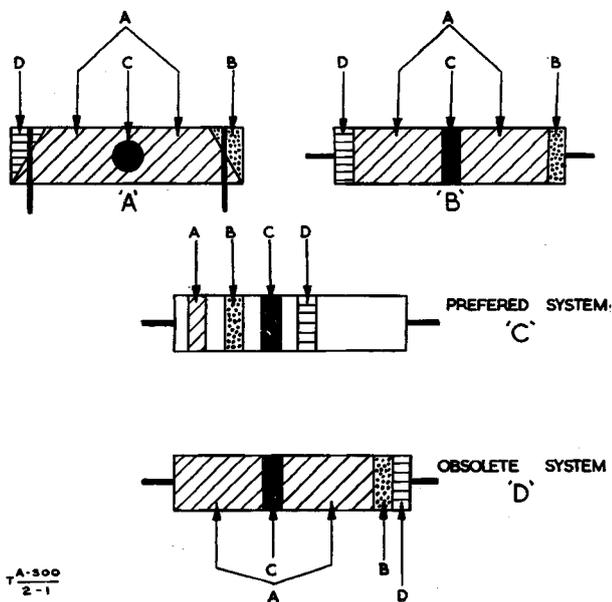

Fig 1 - UK colour coding - resistors
6. Resistors having radial connecting wires (non-insulated types) and resistors having axial connecting wires (non-insulated and insulated types) are coloured as indicated in Fig 1.